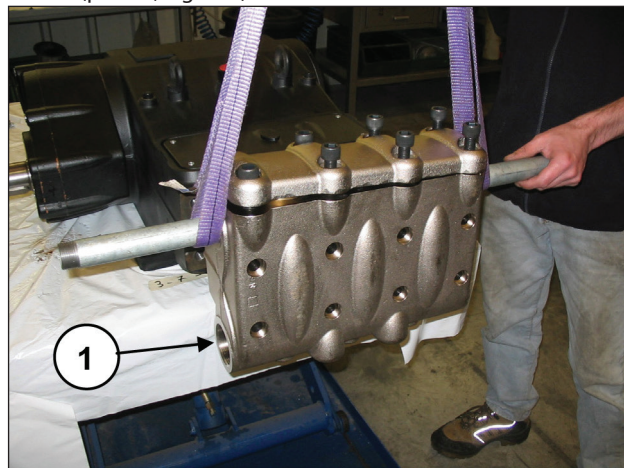
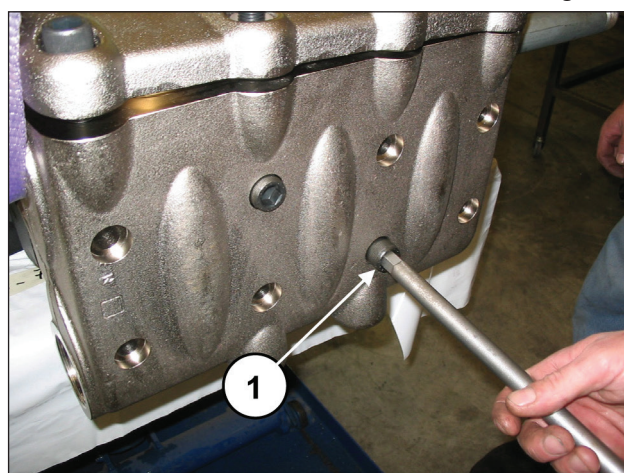

Fig. 117
Fig. 118
Assemble the head on the pump casing (pos. ①, Fig. 117) taking care not to hit the pistons and screw in the 8 M16x180 screws (pos. ①, Fig. 118).
**Tighten the 8 M16x180 screws starting crosswise from the 4 inner screws (see Fig. 117), to then continue with the 4 outer screws, always tightening crosswise**